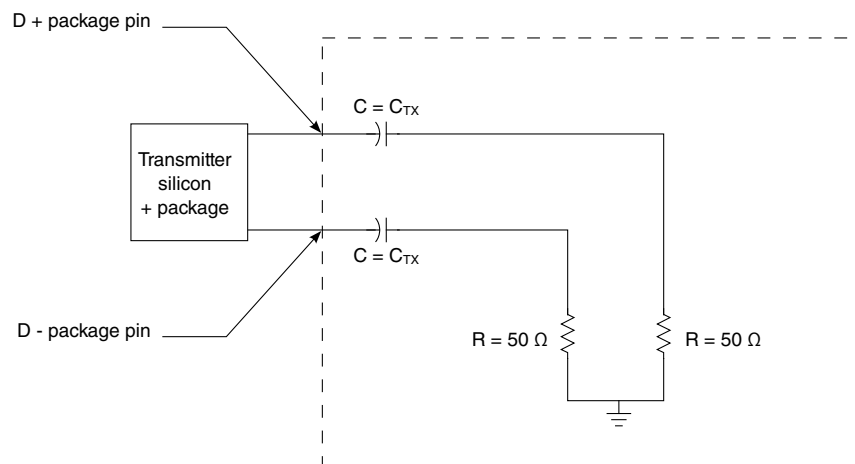

Figure 38. Test and measurement load
1. Specified at the measurement point into a timing and voltage test load as shown in <a href="#">Figure 38</a> and measured over any 250 consecutive transmitter UIs.
1. Specified at the measurement point and measured over any 250 consecutive UIs. The test load in <a href="#">Figure 38</a> must be used as the receiver device when taking measurements. If the clocks to the receiver and transmitter are not derived from the same reference clock, the transmitter UI recovered from 3500 consecutive UI must be used as a reference for the eye diagram.